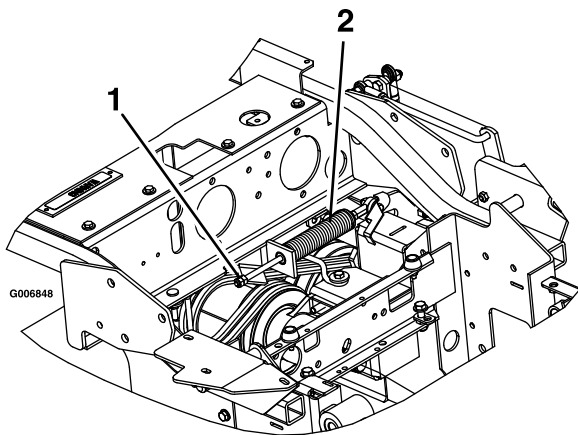

Figure 59
3. Locate the brake spring and thread the 2 jam nuts out to the end of the brake-spring rod (Figure 59).